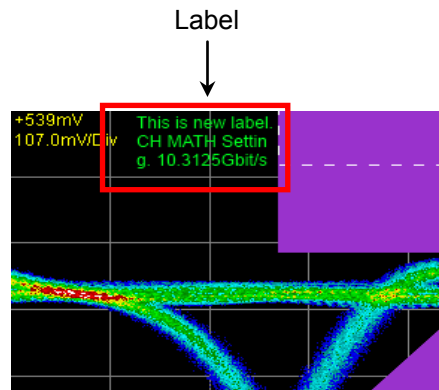

Figure 6.9.8-1 Label Display
3. Set **Preset Information** to **Off** to specify the start position of label display. Set **Preset Information** to **On** to display the label at the fixed area as shown in Figure 6.9.8-1.